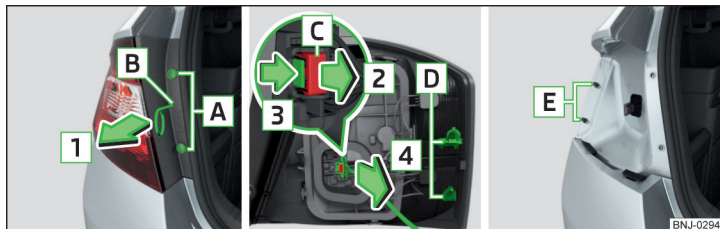

Fig. 291 Remove light / pull out connector
- Unscrew the screws **A** » Fig. 291 with the screwdriver from the tool kit.
- Tighten the lock in the opposite direction to the arrow **2** » Fig. 291.